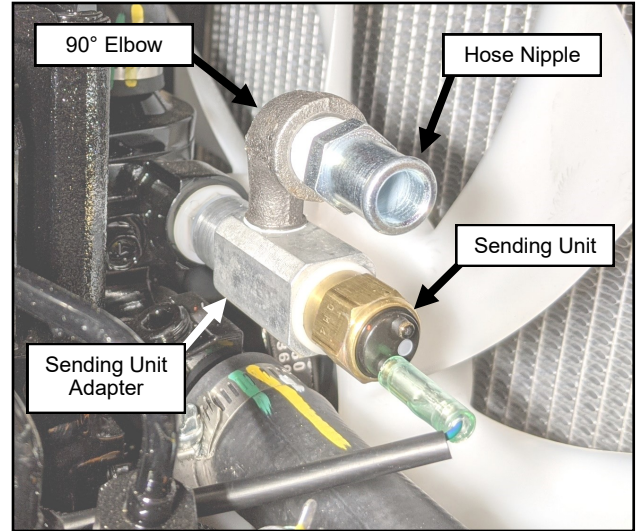

Fig. 18.7 (Heater Sending Unit Adapter Assembly)
- 18.7** Thread in the sending unit adapter using Teflon tape. Ensure the threaded hole in the middle faces up. See Figure 18.7.
- 18.8** Thread the 90° elbow into the middle threaded hole using Teflon tape. See Figure 18.7.
- 18.9** Thread the hose nipple into the 90° elbow using Teflon tape. See Figure 18.7.
- 18.10** Thread the temperature sending unit into the end of the sending unit adapter using Teflon tape. See Figure 18.7. Re-connect the sending unit wiring.